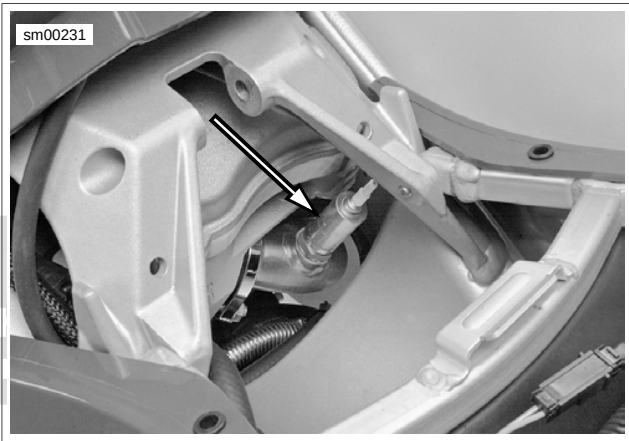

Figure 4-14. Oxygen Sensor (Shock Absorber Removed)
See Figure 4-14. The oxygen sensor (O2 Sensor), located in the rear header pipe, monitors oxygen content in the exhaust gas and converts it to a voltage reading. This voltage reading is used by the ECM to maintain the proper air/fuel ratio during closed loop operation.
- 2. See Figure 4-14. Thread sensor into exhaust header. Tighten sensor to 40-45 ft-lbs (54-61 Nm).